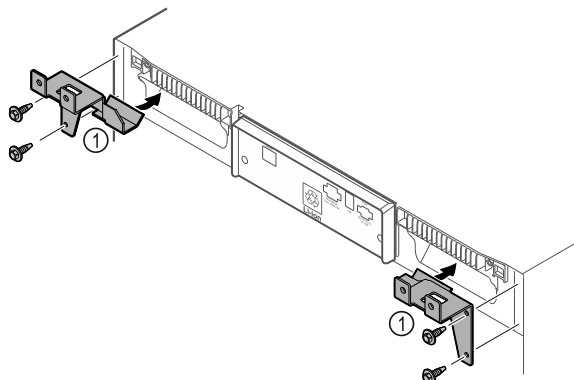

Fig. 8
- Fit the retaining parts Fig. 8 (1) to the device with self-tapping screws.